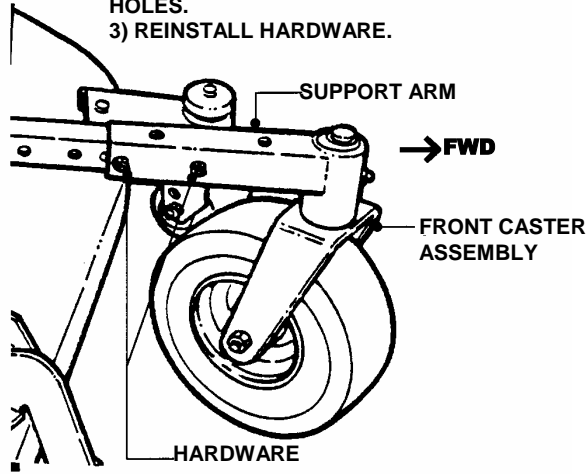

FIGURE 3
STEP 3: Remove the nuts and bolts from the Front Caster Wheel Support Arms. See Figure 3.
STEP 4: Extend the Front Caster Wheels out until they are aligned with the last set of holes. Reinstall nuts and bolts. See Figure 3.